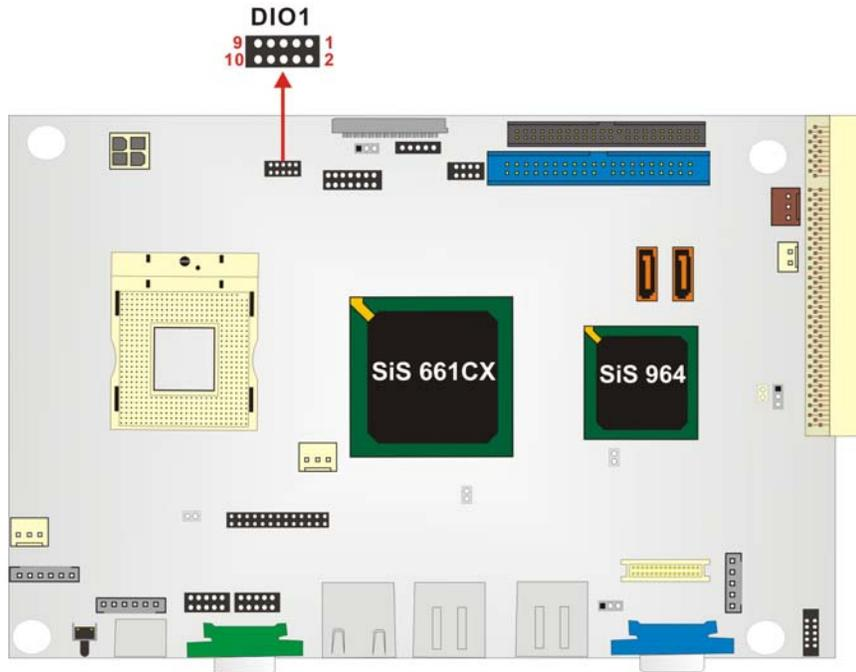

Figure 3-10: GPIO Connector Pinout Locations
- CN Location:** See Figure 3-10